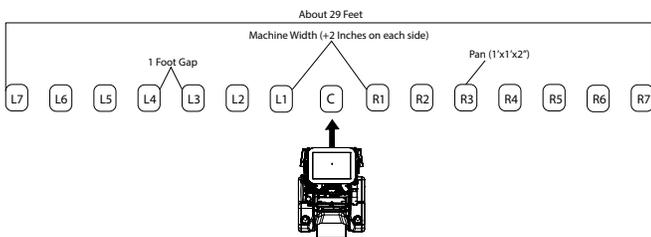

Figure 5-9. Large Granular Material
- To determine the effective spread width for large granular items you will need 15 small pans (1ft², 1 or 2 inches high). Arrange 7 pans to the right (about 1 foot apart), 7 pans to the left (about 1 foot apart), and 1 pan in the center. Make sure to allow room for the machine to drive between the 7 left pans and 7 right pans with the center pan placed so it will miss the drive tires and go underneath the machine during the pass. See Figure 5-9